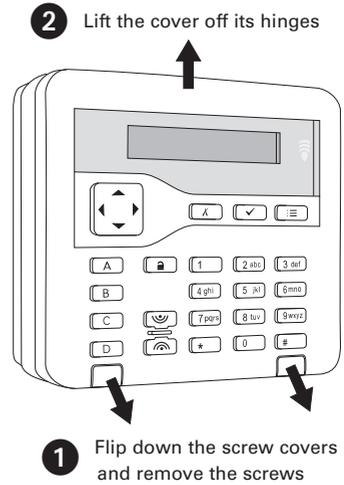

Figure 4. Removing the front cover
1. Remove the front cover of the keypad (Figure 4).